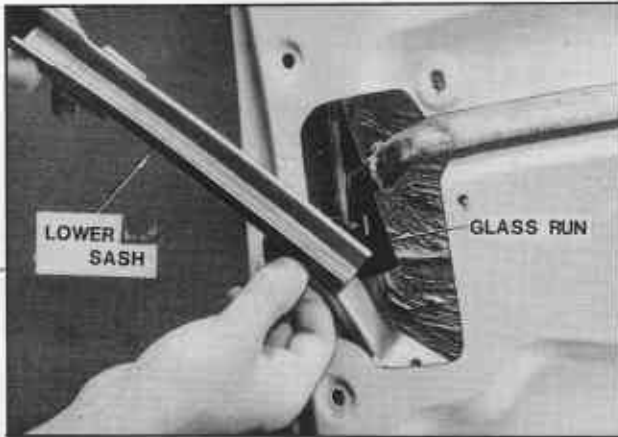

Fig. BF-16 Removing glass run channel
1. Remove glass run channel as shown in Figure BF-16.